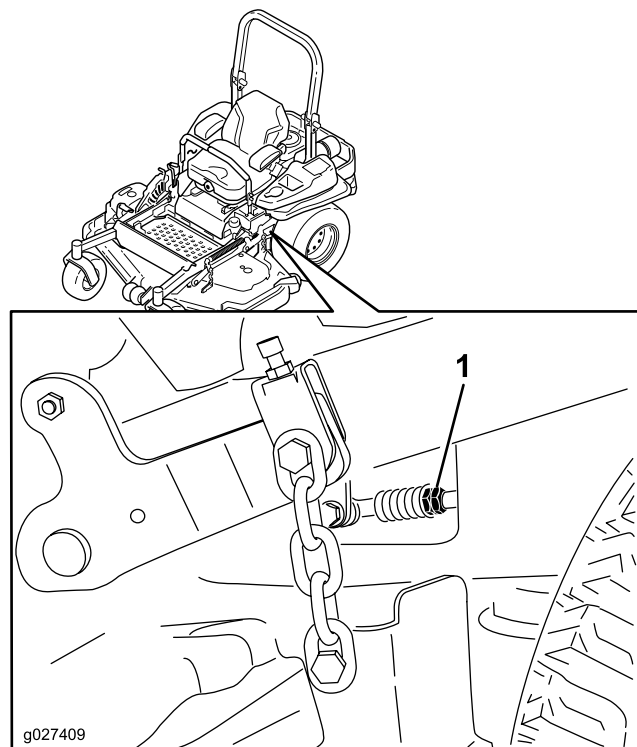

Figure 80
10. Adjust the pump-control-rod lengths by rotating the double nuts on the rod in the appropriate direction until the wheels slightly creep in reverse (Figure 80).